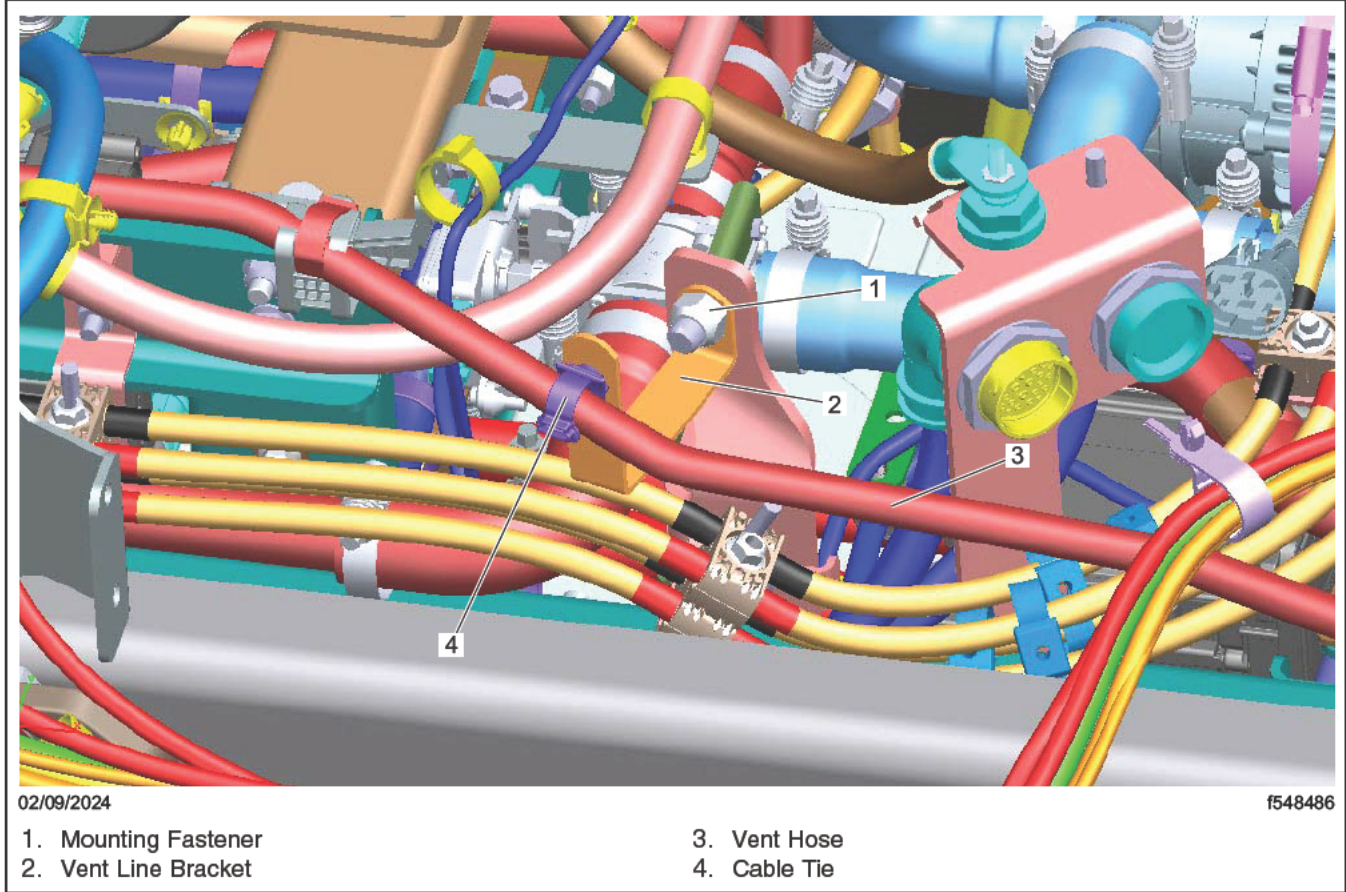

Fig. 10, Installation of Vent Line Bracket
34. Install the vent line bracket, and install the mounting fastener. See Fig. 10.